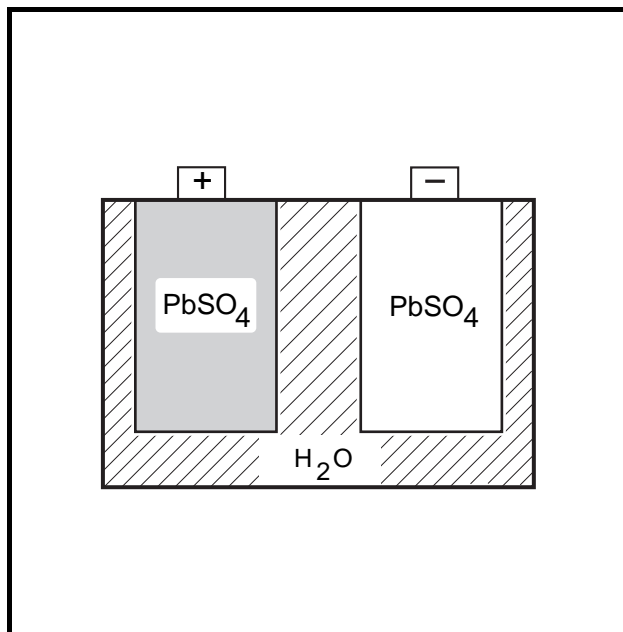

Figure 14-3 Discharged Battery
The sulfate (SO₄) combines with the lead (Pb) on both plates, forming lead sulfate (PbSO₄). Oxygen (O₂) from the positive plates combines with hydrogen (H) from the electrolyte to form water (H₂O) (**Figure 14-3, Page 14-2**).